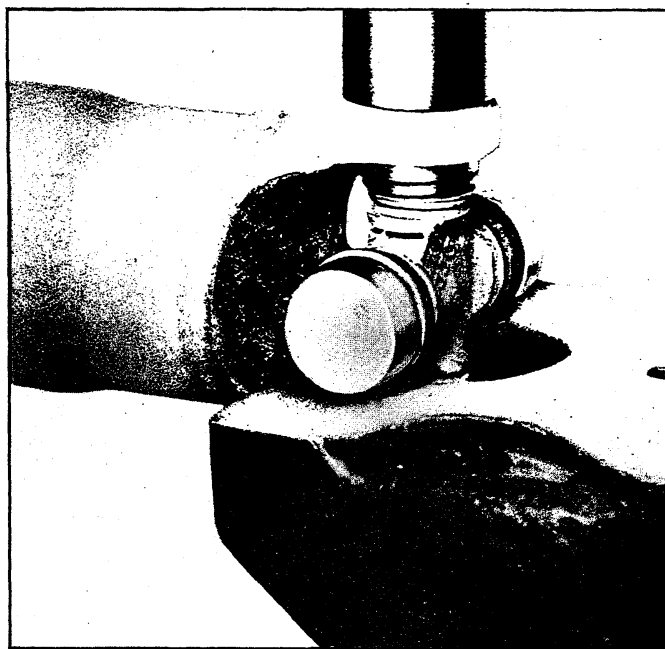

Fig. 108—Pressing Trunnion Bearing from Propeller Shaft
- b. Using a piece of pipe or similar tool, with an inside diameter slightly larger than 1 1/8", press bearing from yoke (fig. 108).